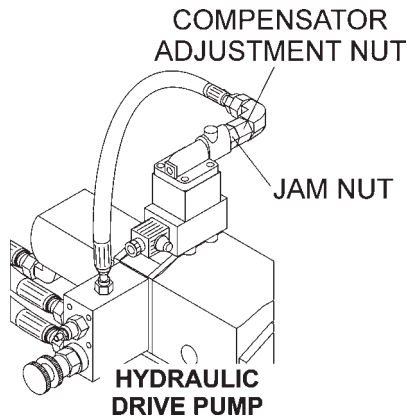

Figure 44. Compensator Valve
2. Loosen the **jam nut** located on the end of the compensator valve (Figure 44).
3. Turn the **compensator adjustment nut** (Figure 44) **clockwise** until tight. Tighten the ¼" hose leading to the compensator.
8. Turn the engine off and loosen the hose from the compensator valve. Loosen the jam nut and turn the **compensator adjustment nut** (Figure 44) **counter-clockwise ½ turn**. Tighten the ¼" hydraulic hose.